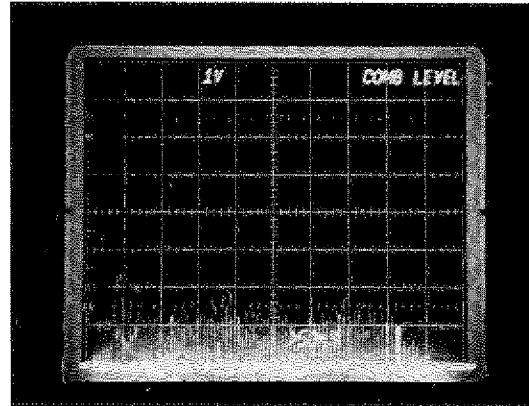

FIGURE 6-6
- (1) Set-up counter as described in paragraph 6-20c (1).
- (2) Jumper A203TP14, TP15, and TP16 together.
- (3) Connect Channel A 10X scope probe to A203TP12. Trigger scope from A203TP20 (Reset).
- (4) Press RESET switch.
- (5) Adjust A203R64 to level comb lines to 1 volt nominal (see Figure 6-6).
- (6) Remove jumpers from TP14, TP15, and TP16.